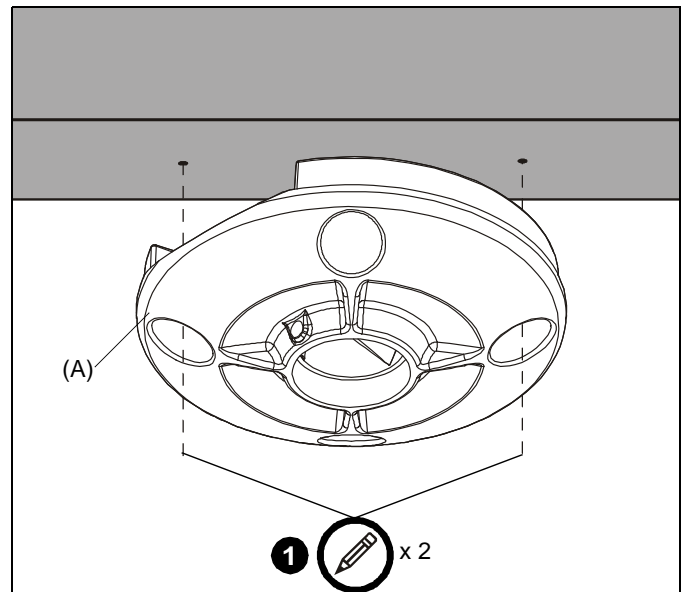

Figure 1
- Using ceiling plate (A) as a template, mark locations of two pilot holes (See Figure 1). Ensure the following:
- Use *OPPOSITE* holes in plate (A), and